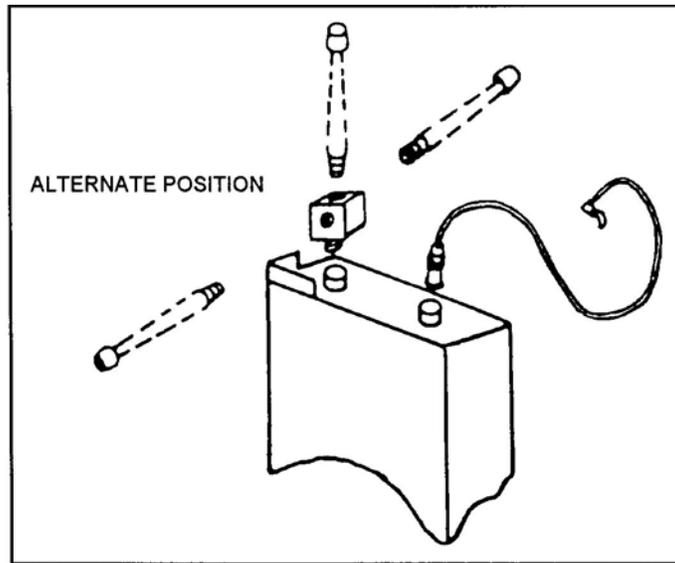

Figure 13. Receiver antenna installation.
b. Install the antenna and headset (Figure 13).
- (1) Install the antenna adapter into the ANT socket on the front panel.
- (2) Connect the antenna to the adapter (the antenna adapter has three sockets; the antenna can be connected to any one of them).